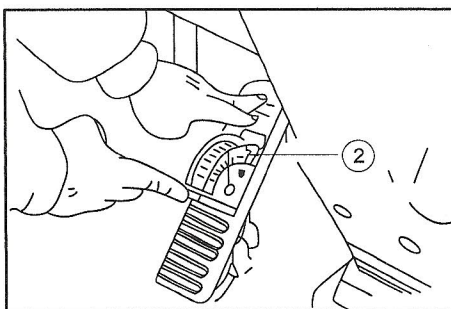

Fig. 05-30
(2) Start the engine, and measure the angle α_1 when the engine is running at low idle speed; and measure the angle α_2 when you step down the pedal with the force of 30kg.
△ When making such measurement, install the angle-rule (2) onto the brake pedal (See Fig. 05-30).